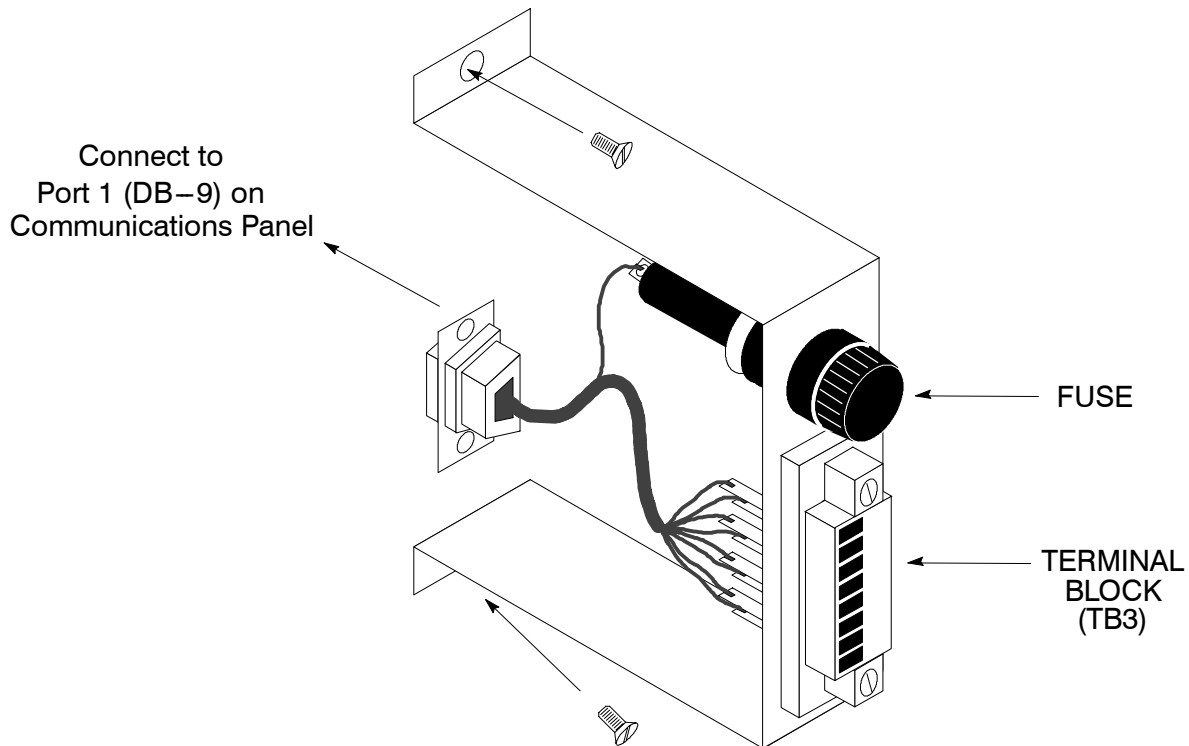

Figure 14. Terminal Block Bracket
3. If not already installed, locate the RMP adapter cable assembly (see Figure 14) in the spare parts kit. Mate the DB-9 connector on the back of the terminal block into the DB-9 connector on the Communications Panel of the UPS (see Figure 15). Use two screws from the spare parts kit to secure the terminal block bracket to the Communications Panel.